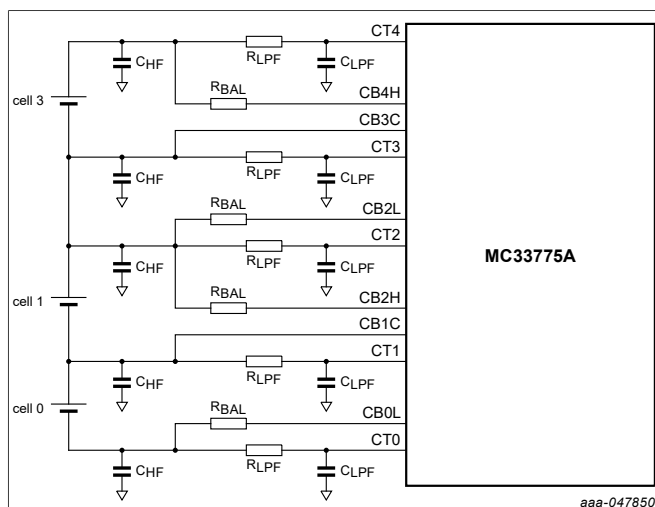
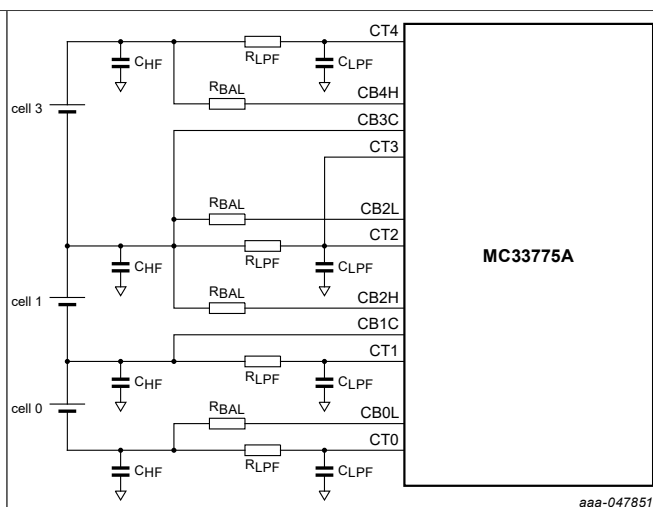

Figure 1. Full population
Figure 2. Reduced population
Figure 1 shows a connection option for skipping cell 2 while keeping all components populated. The not connected input has no influence on the other inputs. Since no components are removed, there is no BOM cost saving compared to a fully utilized application.
A different option is shown in Figure 2. Here the input filter connected to CT3 and one of the C_{HF} capacitors is removed. As leakage currents from CT2 and CT3 are now accumulating, there is a small influence on accuracy of the measurement. If the recommendations in the data sheet are followed, and only one cell is skipped at a time, the impact on accuracy is limited. If two or more cells are skipped, it is recommended to skip only the low-pass filters (LPFs) that are not used by any measurement. Section 5.2 shows an example for such a configuration.
- **System cost:** Some connection option use more, other fewer components. The number of components has an impact to the system cost. The full population option shown in Figure 1 has higher BOM costs than the option with reduced population (Figure 2). However, reusability of the full population option may be higher.